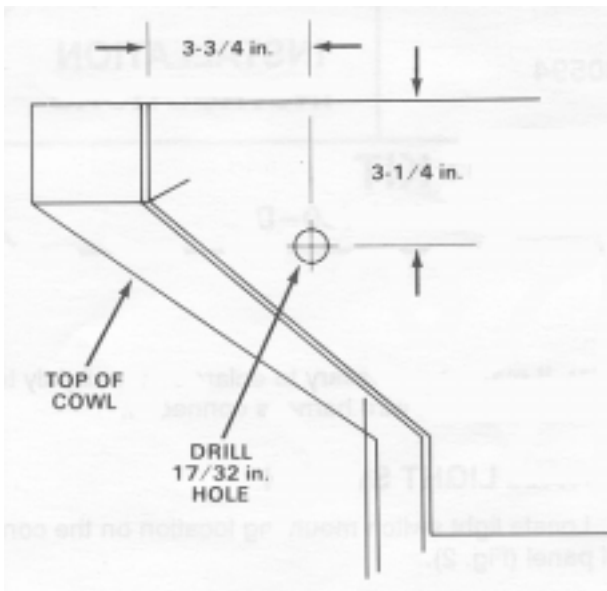

Figure 3
2. Using dimensions shown in figure 3, locate, mark and drill a 17/32" dia. hole in top of cowl. Repeat procedure on opposite side of cowl.